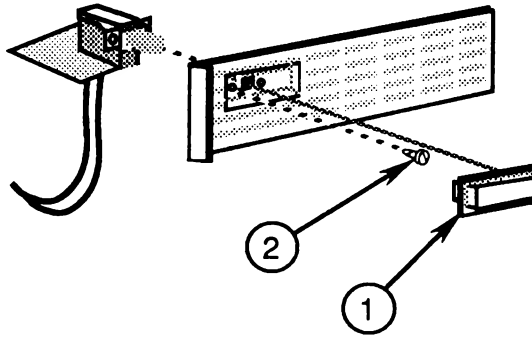

FIGURE 39
- a) Pull the plastic switch button (Figure 39, #1) off the on/off switch shaft.
- b) Remove the screw (Figure 39, #2) that secures the on/off switch to the plastic bracket.